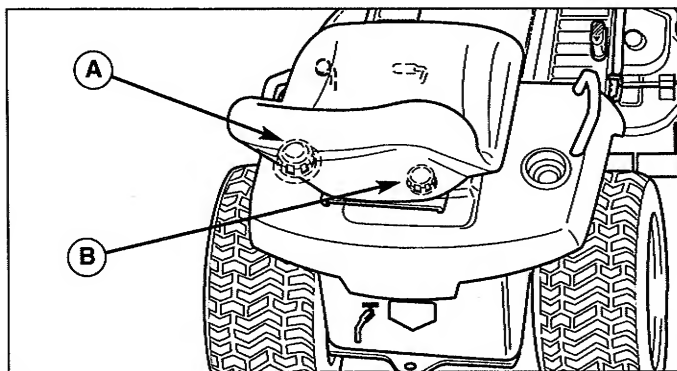

Figure 20. Fuel Tank Fill
1. Remove the fuel cap (see A, Figure 20).